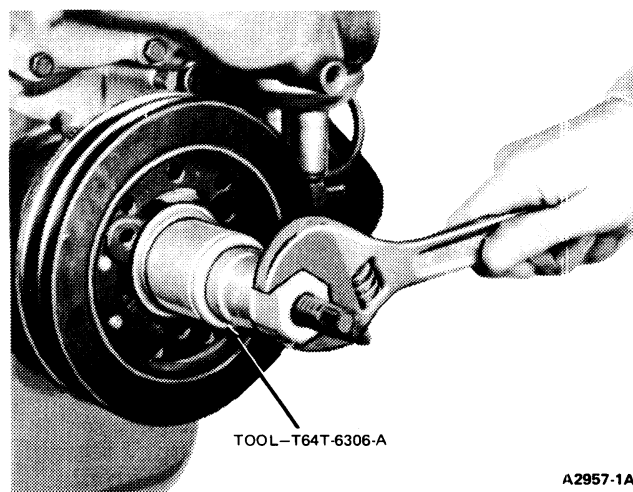

FIG. 24 Installing Crankshaft Vibration Damper
11. Position crankshaft damper Woodruff key and install crankshaft damper (Fig. 24). Install damper